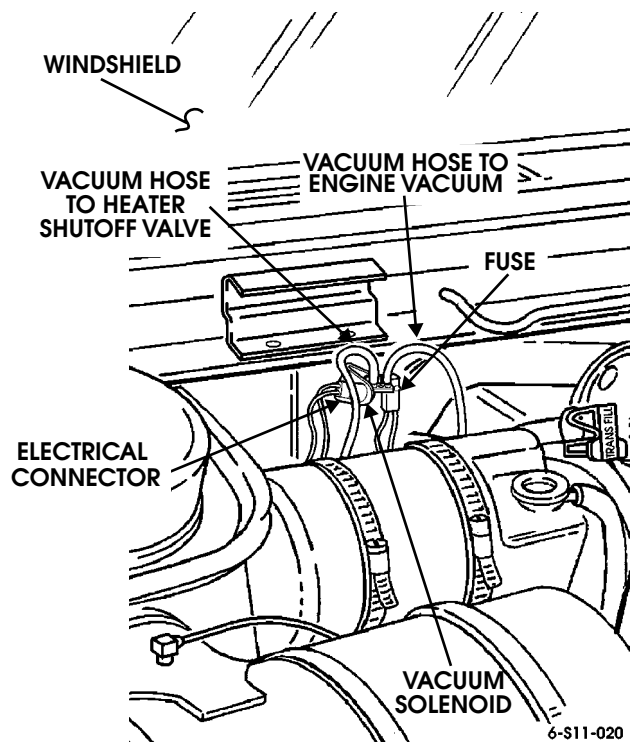

Figure 11-25: Vacuum Hose to Heater Shutoff Valve
1. Unplug electrical connector from vacuum solenoid (Figure 11-25).
2. Attach vacuum hoses to vacuum solenoid (Figure 11-25).